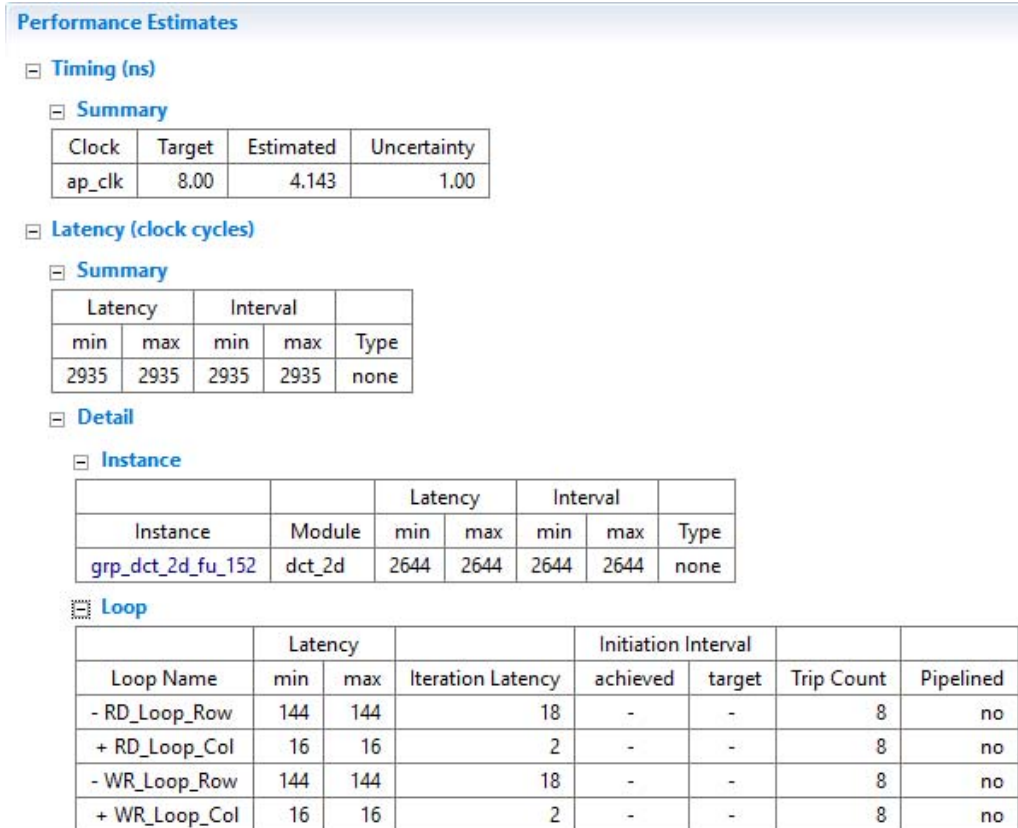

Figure 6-4: Report for Initial DCT Design
When synthesis completes, the synthesis report opens automatically. Figure 6-4 shows the performance section of the report.
Figure 6-4 highlights the following information.
- The loops in the `read_data` and `write_data` functions are therefore implemented at the top level and are reported as loops in the top-level function (Figure 6-4).